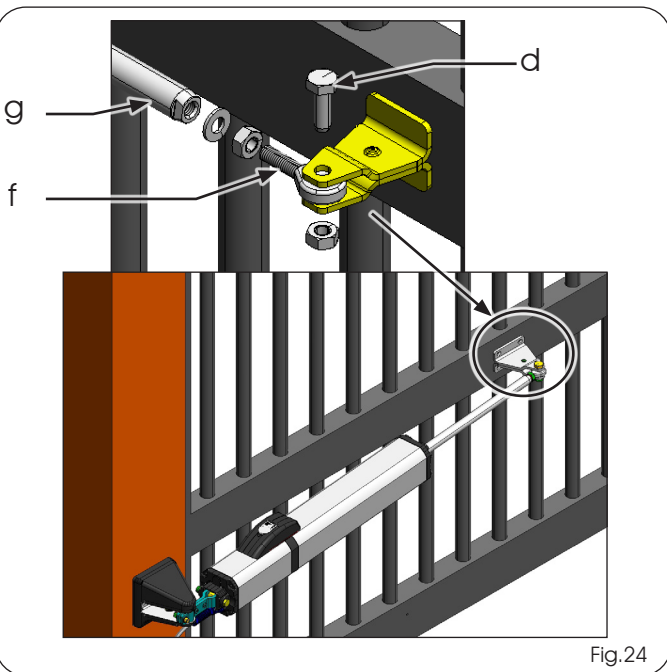

Fig.24
2. Remove the screw in Fig. 24 ref.d from the front bracket
3. Remove the swivel joint (Fig.24 ref.f) from the piston. (Fig. 24 ref. g).